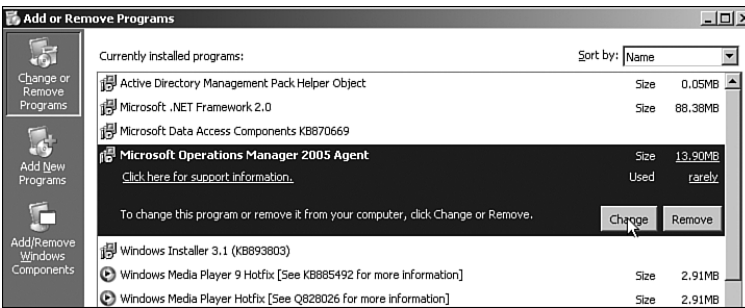

FIGURE 9.9 Installing a multihomed agent through Add/Remove Programs.
1. Open the Add/Remove programs and click on Change as shown in Figure 9.9.